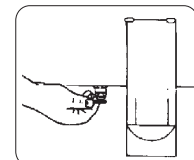

FIGURE 13
- Open the drain petcock 8 to exhaust the condensed water inside the tank and close it right after (Figures 13 and 14).
- Drain the condensed water from the tank, through petcock 8 (Figures 13 and 14).